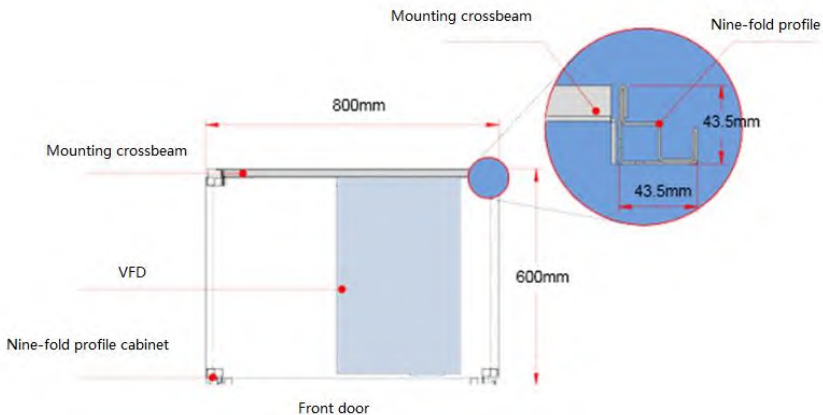

Figure 4–11 Top view of mounting GD270-280-4–GD270-500-4 in a cabinet
- (1) The nine-fold profile cabinet (PS cabinet) is recommended. Figure 4–11 shows the enlarged view of the nine-fold profile cross section.
- (2) When you need to mount GD270-280-4–GD270-500-4 into a nine-fold profile cabinet with the depth of 600mm, you must bend the mounting crossbeam inwards (shown in Figure 4–12) to make use of the space of column, which is not necessary for the mounting into a standard cabinet or a cabinet with the depth of 800mm.